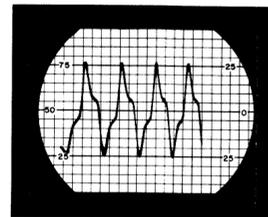

Figure 2.
(1) Adjust the 1000 cps input signal to 3 volts. This should drive the IDC circuit to the full clip. See figure 2.
(2) With this input signal level, adjust the IDC control on the transmitter to provide a 10-square peak-to-peak recovered signal on the oscilloscope. This is equivalent to ± 5 kc deviation as shown in figure 2.
(3) Reduce 1000 cps input to 0.75 volt. Essentially full deviation should still be observed on the oscilloscope. Less than 3/4 full deviation may indicate a weak audio stage or other lack of audio gain.